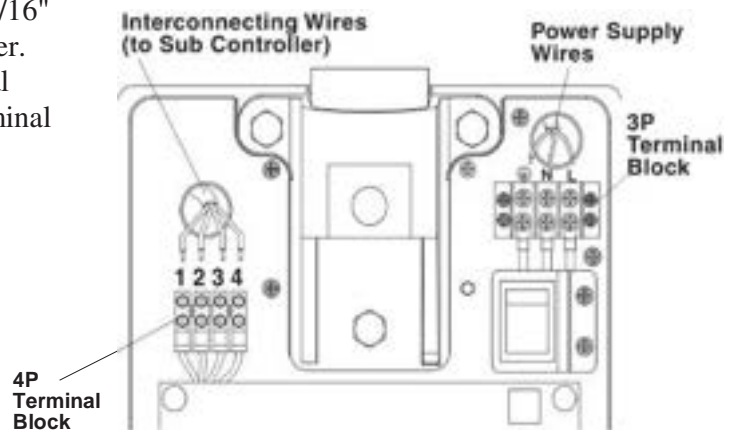

Fig. 3-7 Wires Connection in Main Controller
3. Cut the wires to workable length and strip 3/8" of insulation for power supply wires and 3/16" for interconnecting wires for Sub Controller. Connect power supply wires to 3P terminal block and interconnecting wires to 4P terminal block. (Fig.3-7)
4. Reattach the restriction plate. (Fig.3-7)